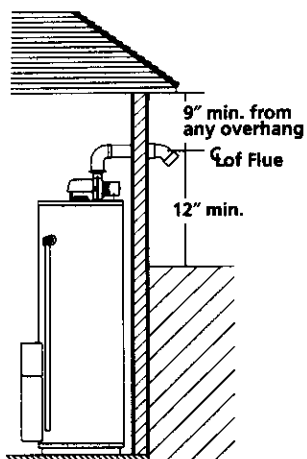

Figure 2
- 12" minimum from the ground, 9" ceiling overhangs. Figure 2, page 12.